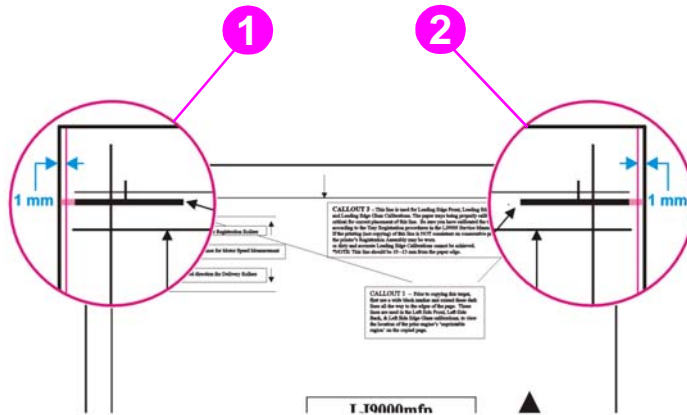

Figure 212. Left side front calibration (2 of 4)
- 4 On the calibration target page, extend the wide line on the top, left corner and the wide line on the top, right corner to the edge of the paper. See figure 212.